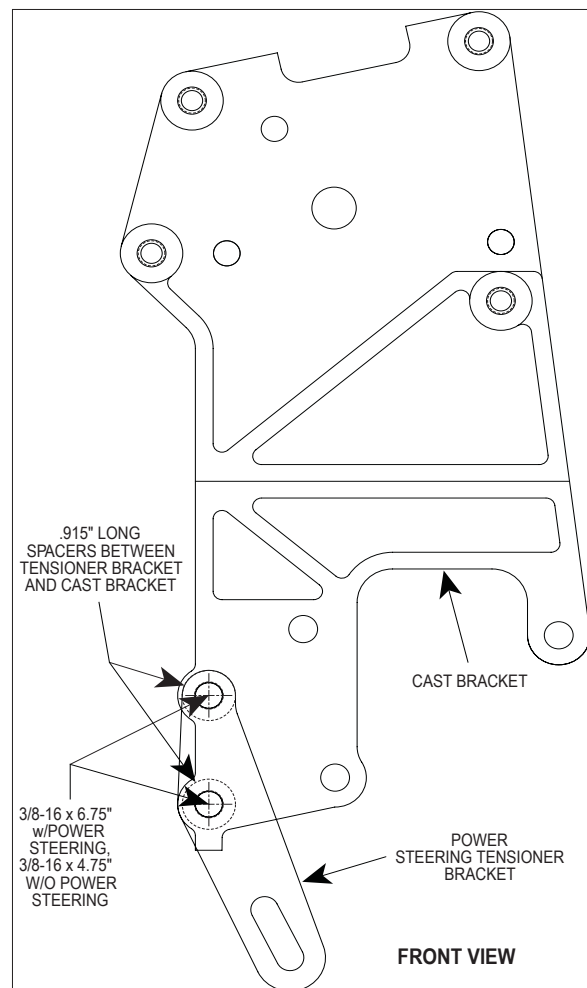

Fig. 4.2-a
- C. **(Power steering models only.)** Locate the optional 4GP110-051 P/S pump support assembly. Using the 3/8-16 x 3.75" screws and washers, mount the cast bracket to the cylinder head. Install the 3/8-16 x 6.75" screws and washers through the power steering tensioner bracket, .915" long spacers, cast bracket, and into the engine block. (See Fig. 4.2-a.)